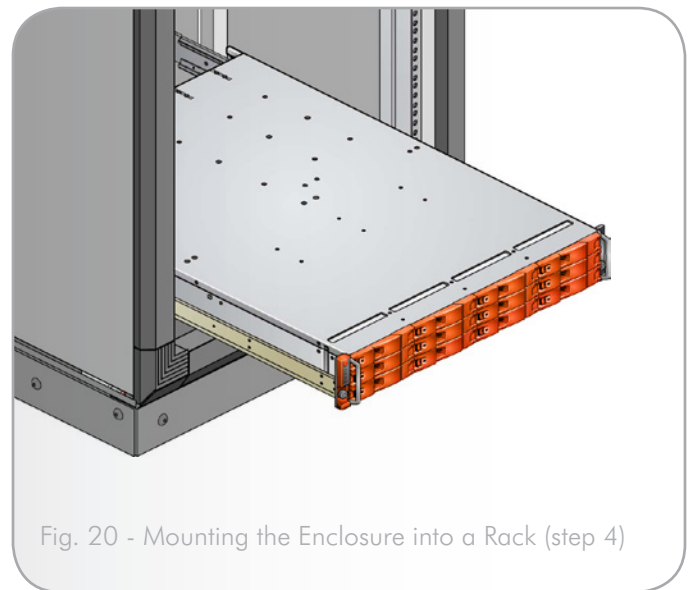

Fig. 20 - Mounting the Enclosure into a Rack (step 4)
Assemble the rack brackets to the rack posts as follows (see Fig. 20).
5. Mount the enclosure in the rack as follows (refer to Fig. 20):